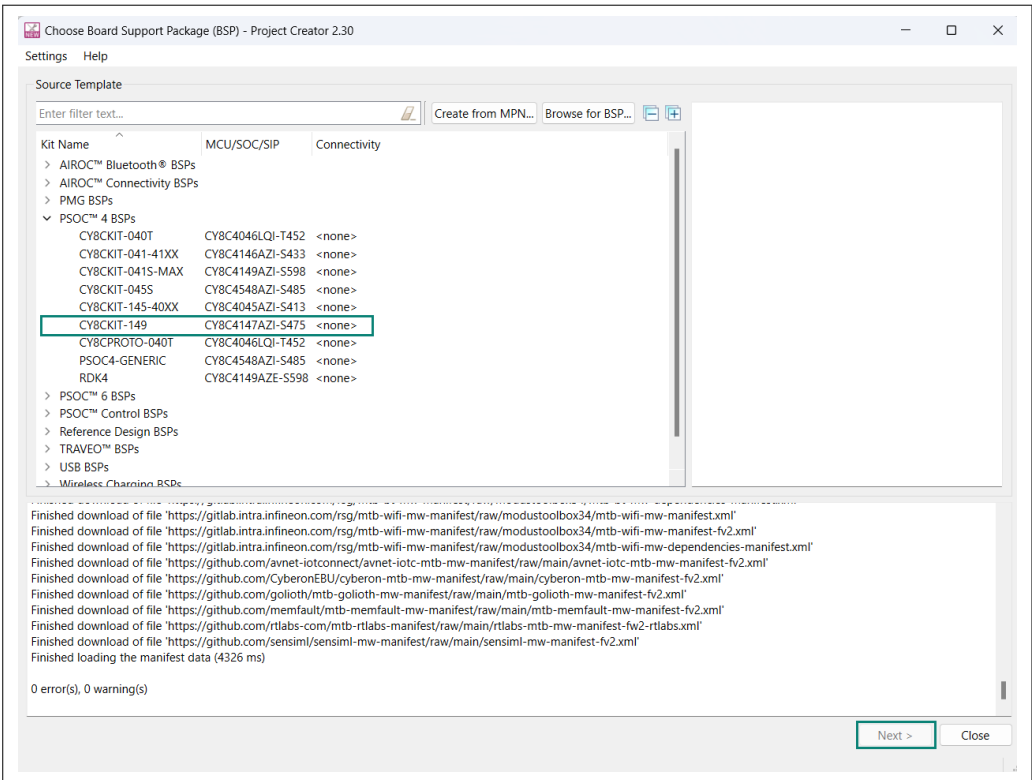

Figure 12 Creating a new application: Choose Board Support Package
- b. In the **Choose Board Support Package (BSP) - Project Creator 2.30** window, expand PSOC™ 4 BSPs, select **CY8CKIT-149**, and click **Next**, as shown in Figure 12